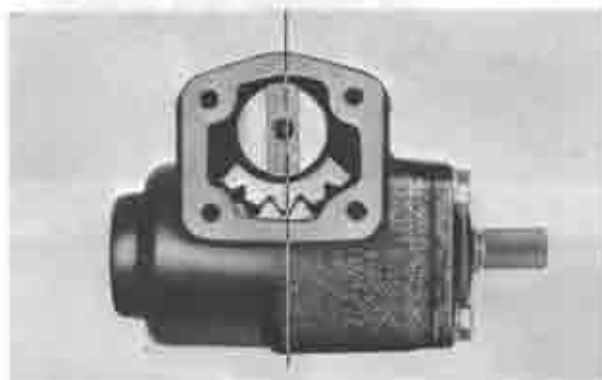

Fig. 10-11 Position of sector gear and worm gear
5. Turn the worm shaft and place the rack in the center position of the worm in the gear housing. Insert the sector shaft and adjusting screw into the gear housing, being careful not to damage the bushes and oil seal, and ensuring that the center of the sector gear is in alignment with the center of the racks, as shown in Fig. 10-11.